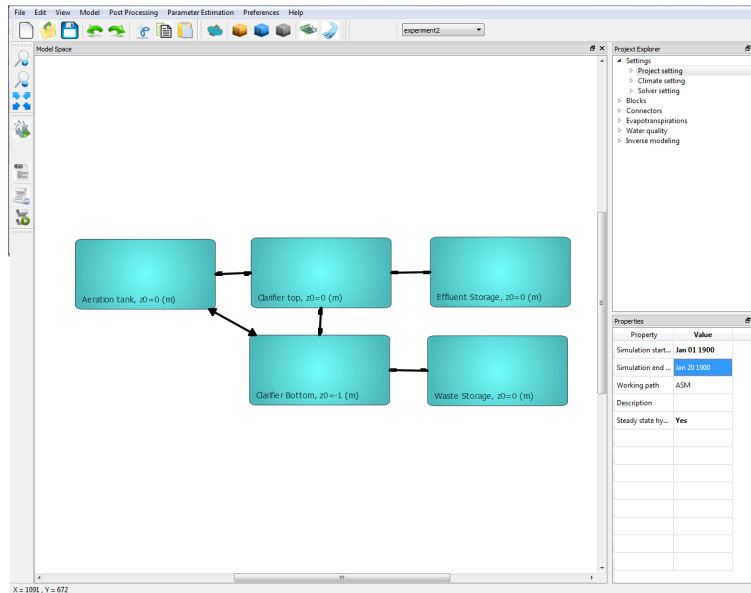

Figure 4.9: Activated sludge model configuration in GIFMod
**Note:** The length that is entered for the connectors is not actually used in calculations of flow because the quasi-steady state approach will be used. But GIFMod does not allow connectors with zero lengths so the value must be entered. After adding the connectors the model configuration should look like figure 4.9.